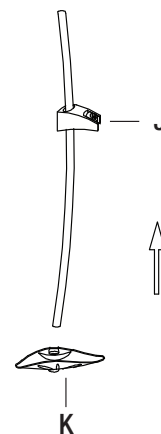

Fig. 8
- Insert the slide bar (J) through the hole of the soap dish (K), see Fig. 8.